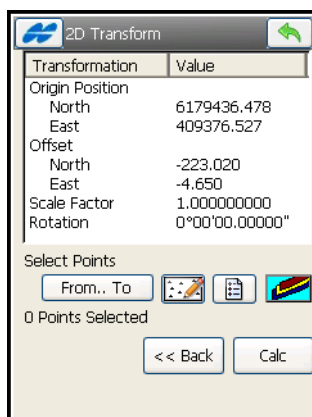

Figure 10-27. 2D Transform Parameters
4. Tap **Calc** to perform the two dimensional transformation of these points (Figure 10-27).